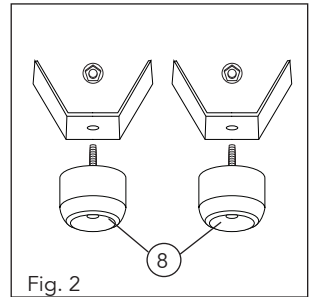

Fig. 2
### Fitting the supporting feet (8) (Fig. 2):